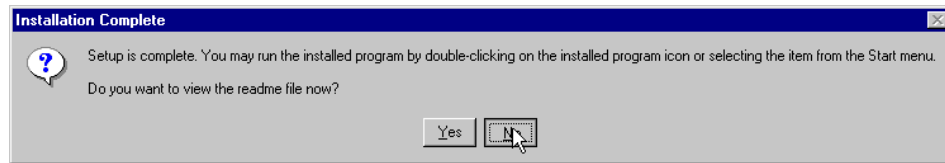

Figure 27. Installation Complete
19. In the window, shown in Figure 27, you will see the Installation Complete message.